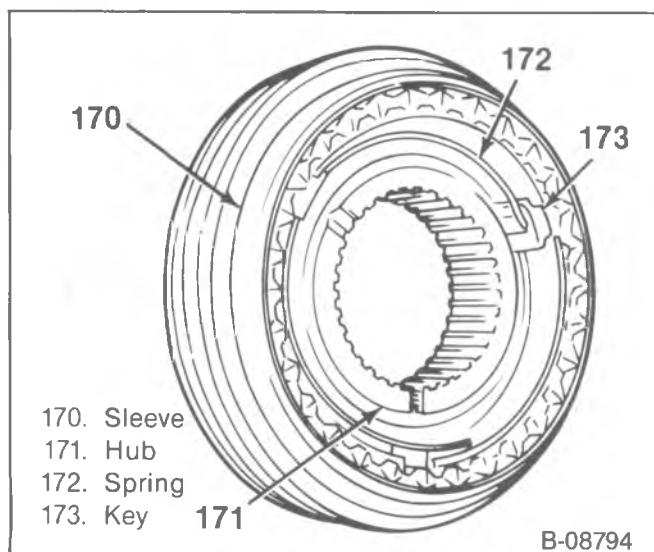

Figure 13—Synchronizer Assembly
- 1. Synchronizers (107 and 137), (figure 13).